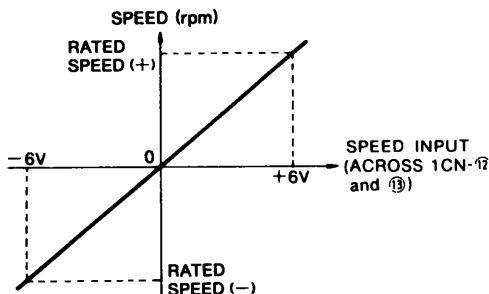

Fig 10 1 Speed Reference Input—SERVOMOTOR Speed Ratio
(Fig 10 1)
- (2) Speed Regulation (Fig 10 2)